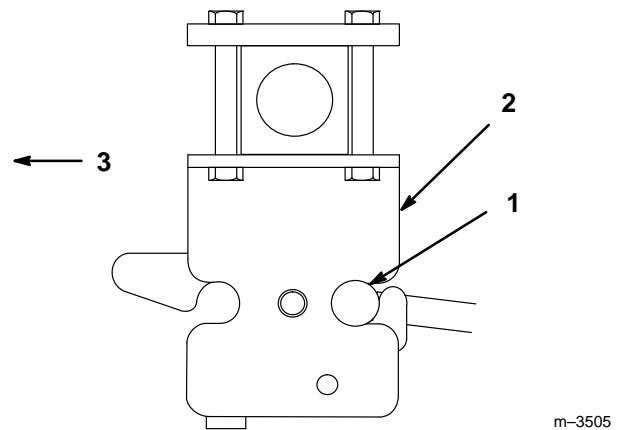

Figure 11
4. Open the latches on the rear Attach-A-Matic™. Place the smaller bar of the jack shaft assembly into the slots on the front of the rear Attach-A-Matic™ (Fig. 11).